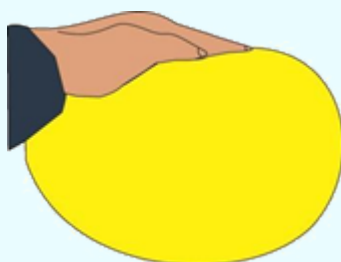

Fig.10.1.10: Pressure applied on an inflated balloon
- Now squeeze the balloon as shown in (Fig. 10.1.10) and observe.